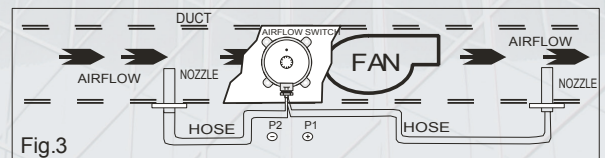

Fig.3
9. If unable to obtain a proper switch operation it may be necessary to fit a nozzle to the negative side of the duct as well, in which case P1 + connects to the fan outlet and P2 - to the fan inlet (as in fig.3).